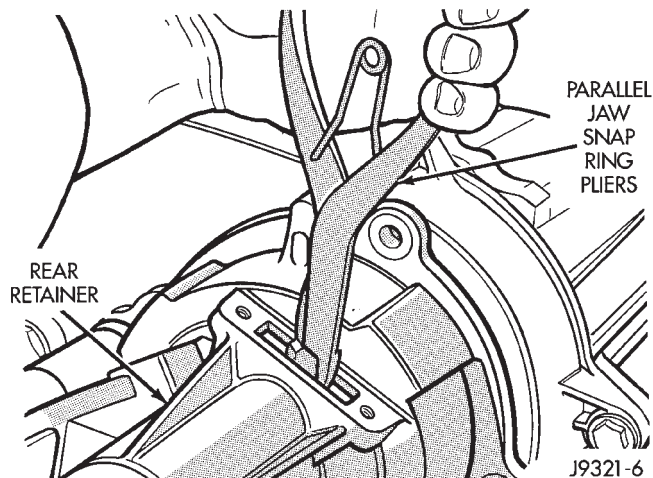

Fig. 28 Disengaging Rear Bearing Locating Ring
(7) Remove rear retainer as follows:
- Spread rear bearing locating ring with snap ring pliers (Fig. 28).